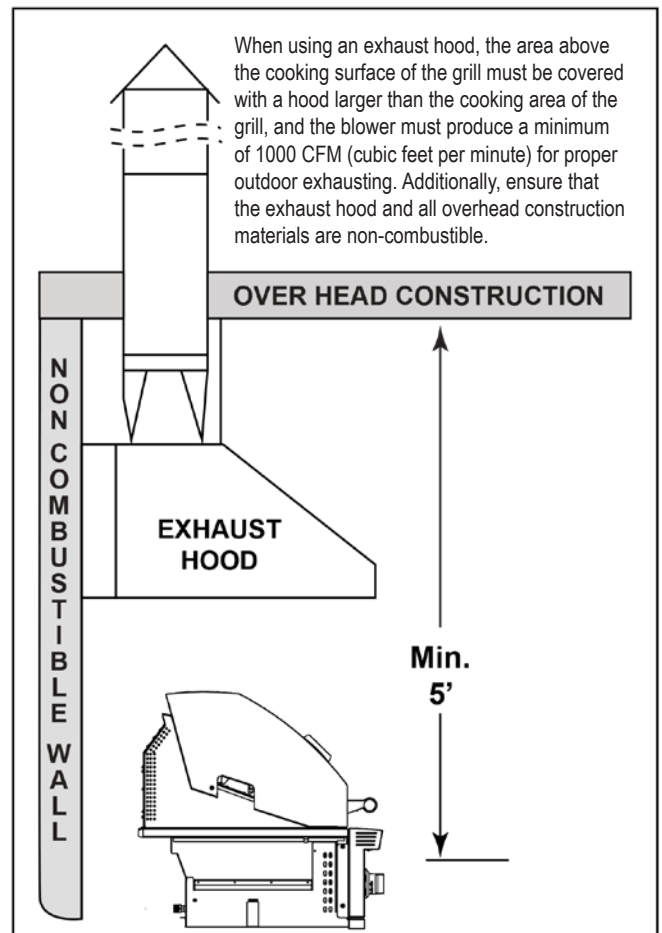

Figure 5
**When the grill is installed under any overhead construction, the area above the cooking surface of the grill must be used with an exhaust hood.** The exhaust hood provides the protection for the combustible overhead construction. See Figure 5.